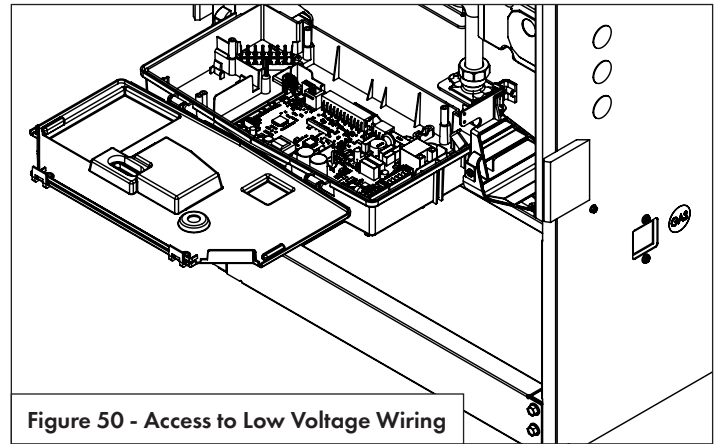

Figure 50 - Access to Low Voltage Wiring
6. Open the control panel cover to have access to the main PCB. See Figure 50.